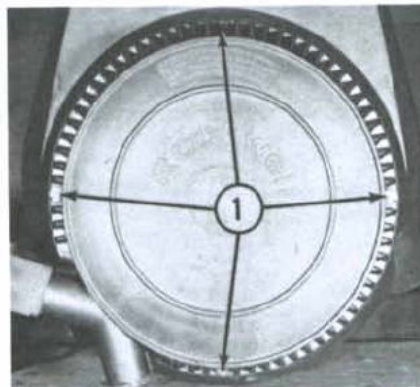

Fig. 5—Recoil starter is retained by four slotted screws (1). On some models, starter must be removed separately for access to flywheel.
On models L227, L230, L295, L297, L300 and L340, recoil starter must be removed separately from fan cover as shown in Figs. 5 through 7. On all
Fig. 6—With starter removed as shown in Fig. 5, remove the three screws (2) and lift off starter hub (3) and rope pulley (4). Fan cover (5) can now be unbolted and removed.